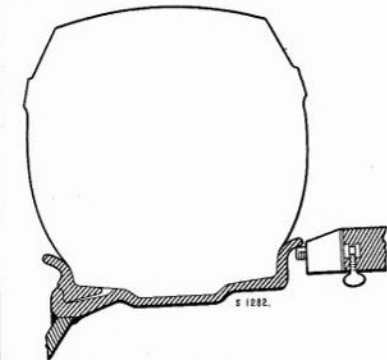

Fig. J.7. Sectional view showing the correct location for the contact foot of Churchill Wheel Alignment Gauge 121LA against the wheel rim
3. Locate the bridge piece against the wheel rim with the screw head under the flange (see Fig. J.7).